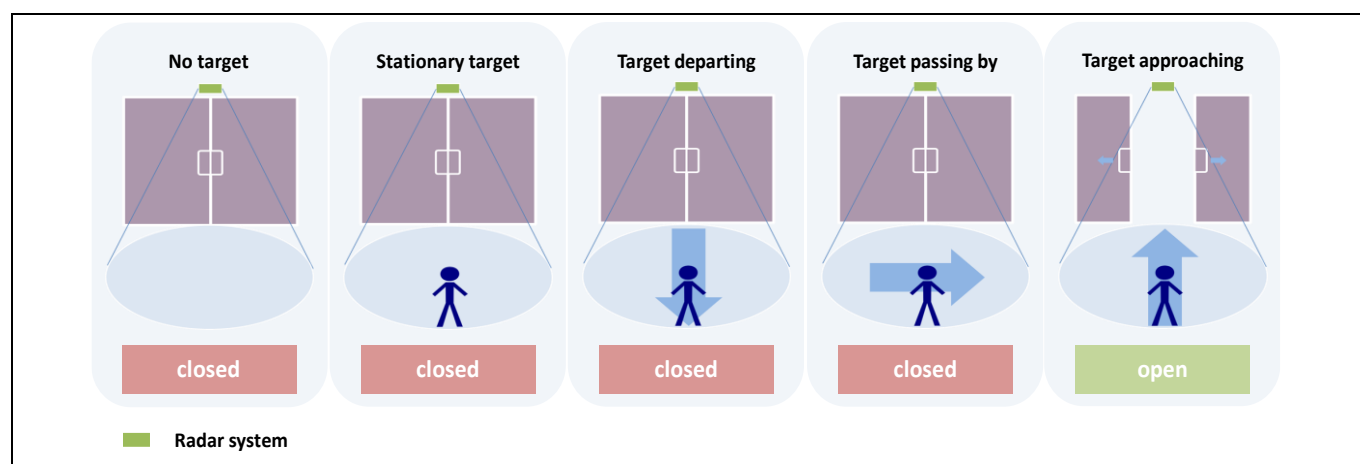

Figure 21 Smart door opener use case
- smart door openers based on direction of movement (Figure 21)